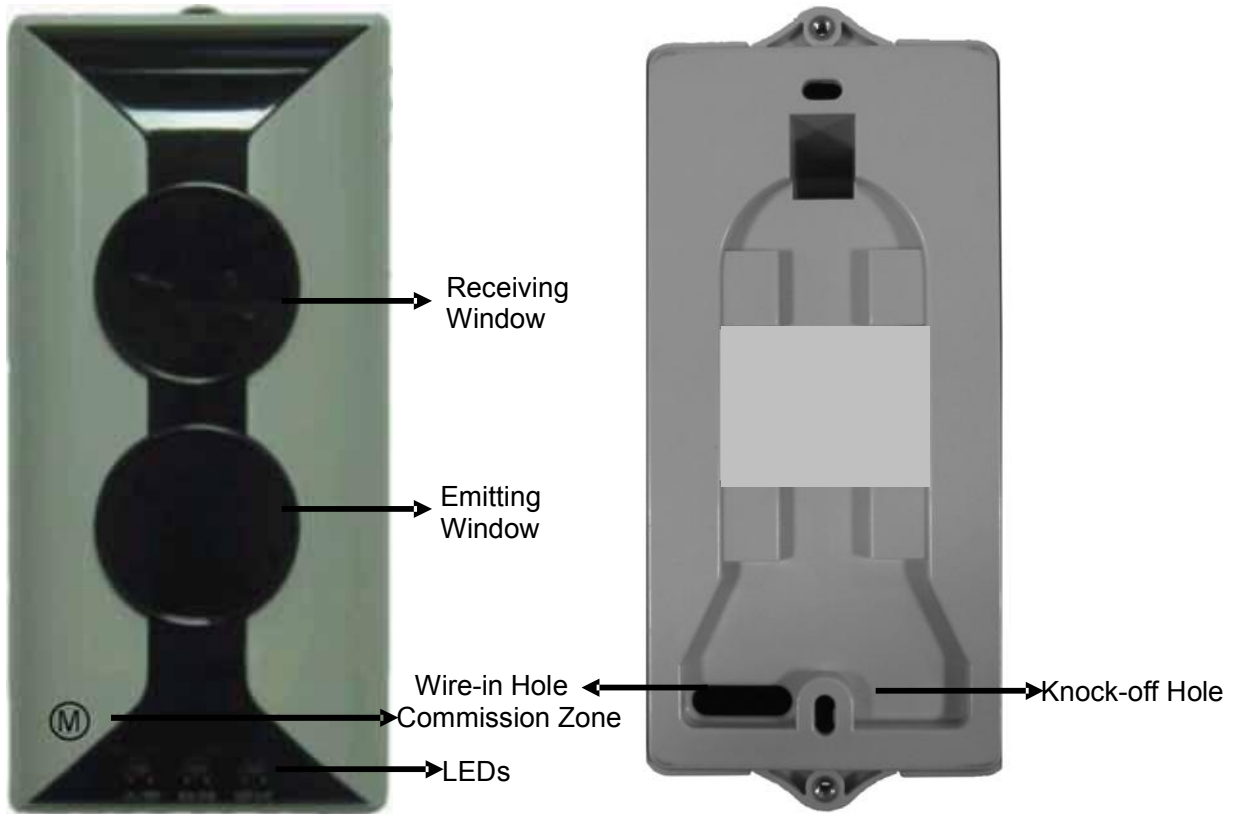

Fig. 1 Appearance
(1) Appearance of the detector is shown in Fig. 1.
Note: Before installing, knock off the “Knock-off Hole” (see Fig. 1) on the base of the detector.